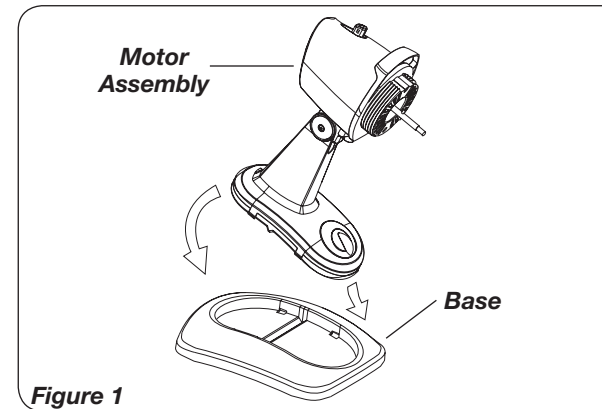

Figure 1
1. Insert front of *Motor Assembly* into front of *Base*. Push back on *Motor Assembly* and fully seat into position. (Figure 1)